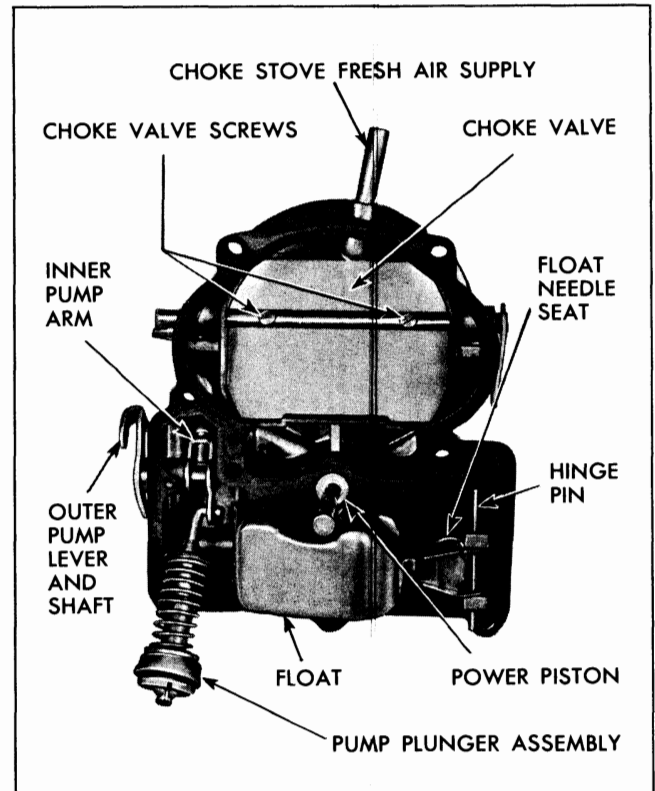

Fig. 6B-21 Bowl Cover Attaching Parts
2. Remove main metering jets and power valve (Fig. 6B-22).